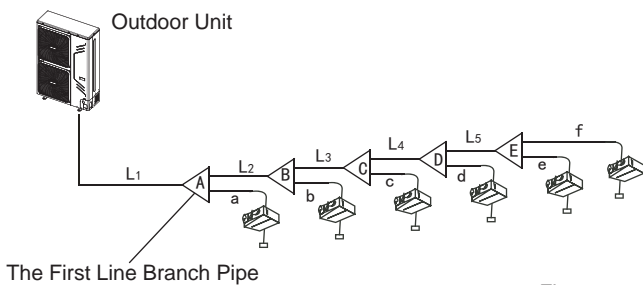
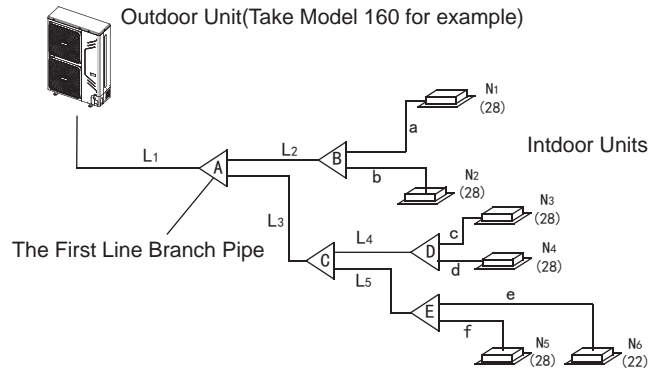
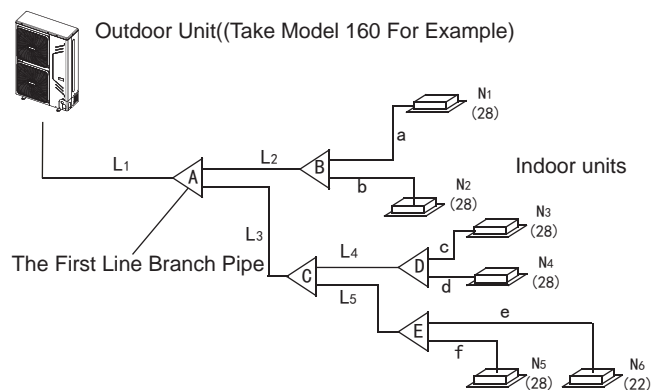
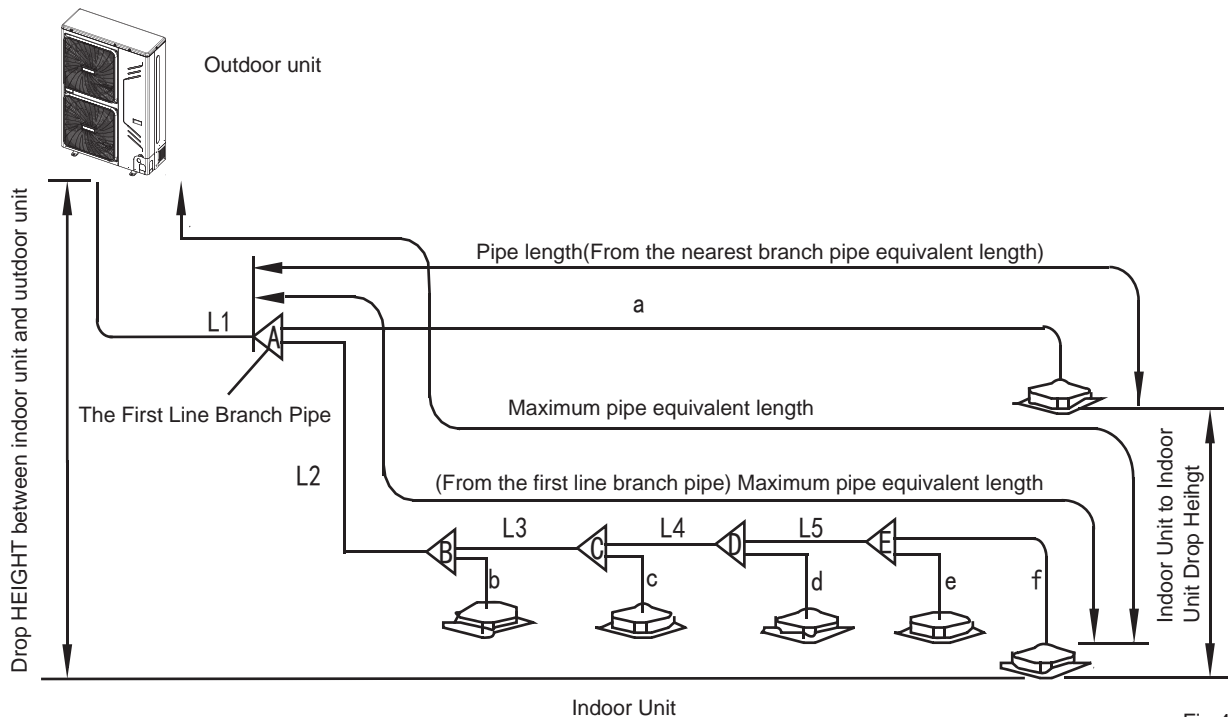

Fig. 4-4
Fig. 4-5
Fig.4-6
Fig.4-7
- 2) Example 1: In the Fig.4-5, The downstream inner units of the L2, and its total capacity is  $28 \times 2 = 56$ , refers to the Table 4.4, the air/liquid side of L2 is:  $\Phi 15.9/\Phi 9.5$ .
- Main pipe (Please refer to Fig.4-5 and Fig.4-7)
In Fig.4-6, the main pipe L1, the outdoor unit capacity is 16kW, and check the Fig.4-7 to get the size of gas pipe/liquid pipe is  $\Phi 19.1 / \Phi 9.5$ , and also the total equivalent length of liquid side and gas side pipes is  $> 90m$ , then check the Fig.4-4 to get the size of gas pipe/liquid pipe is  $\Phi 22.2 / \Phi 9.5$ , and according to the maximum value principle, it should apply the  $\Phi 22.2 / \Phi 9.5$ .